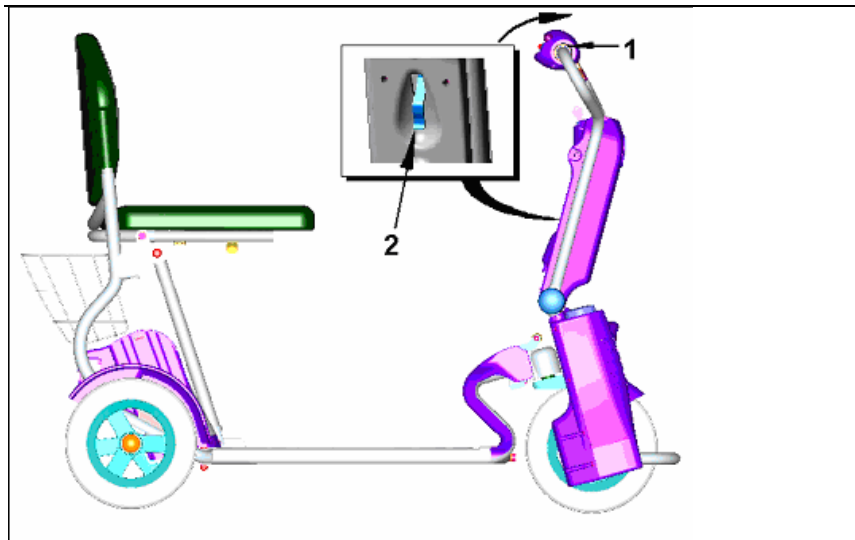

figure 9
To tilt the handlebar (1) forward pull the lever (2) down as shown in **figure 9** , than push the handlebar (1) forward while Keep pulling the lever (2) downward. When you like the handlebar (1) to be fixed and secured again , just leave the lever (2) at the desired position and it will be snap and secured nearest groove .